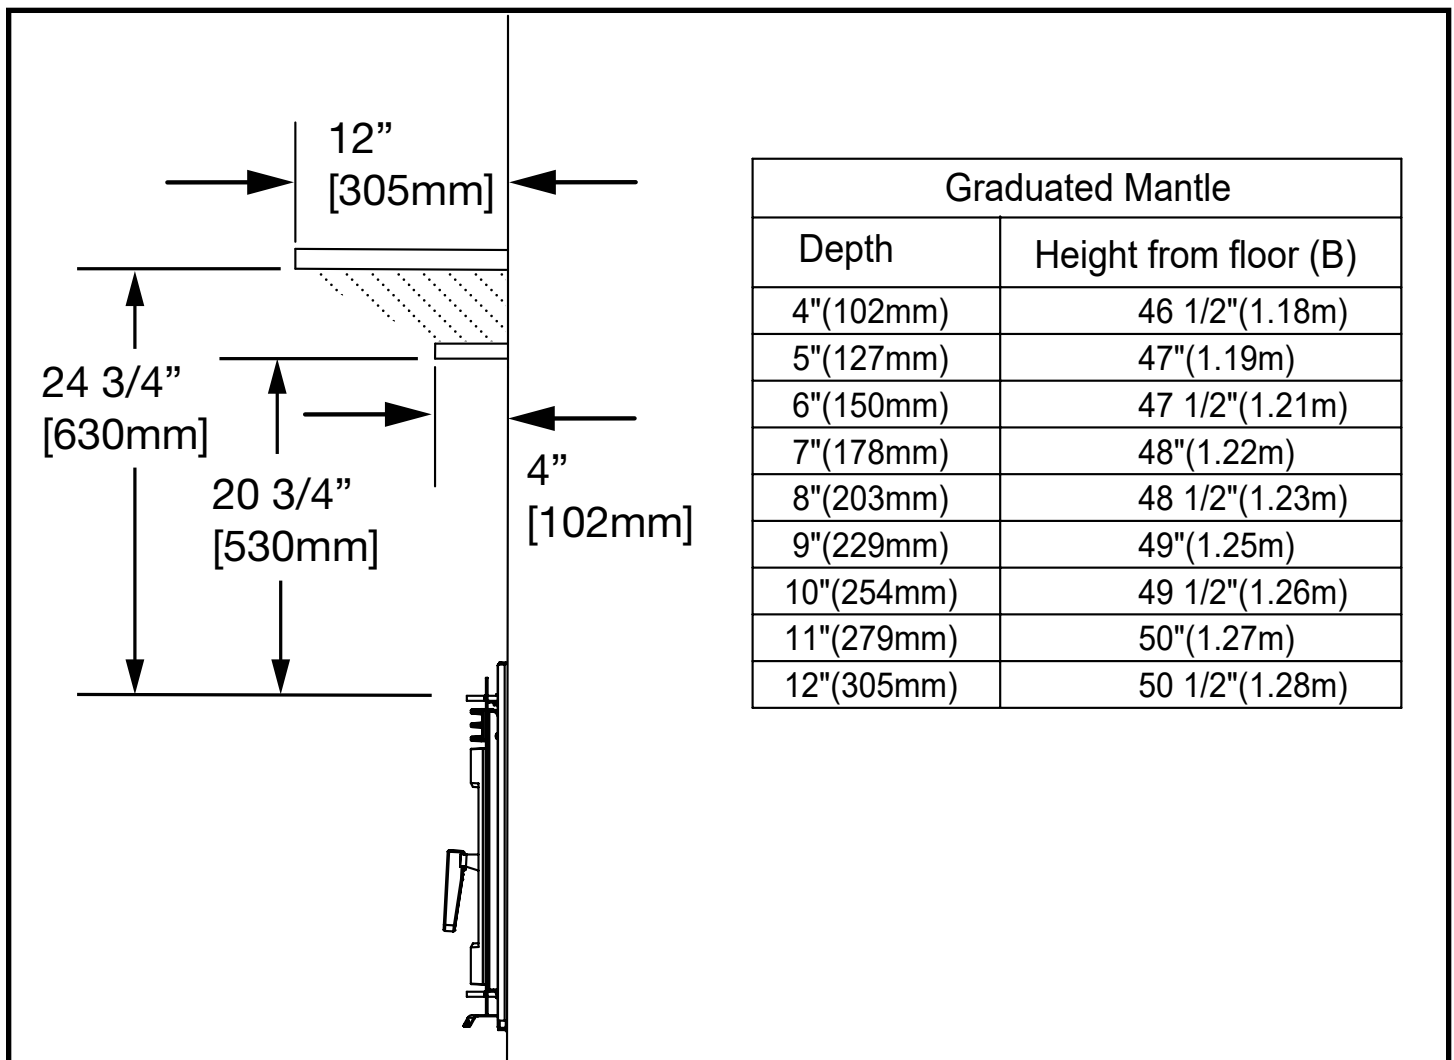

Figure 24: FP16 LE Mantle Clearance Chart.
- Above the Heat Exchanger's Air Deflector up to a minimum of "Figure 24: FP16 LE Mantle Clearance Chart." on page 27, depending on depth.